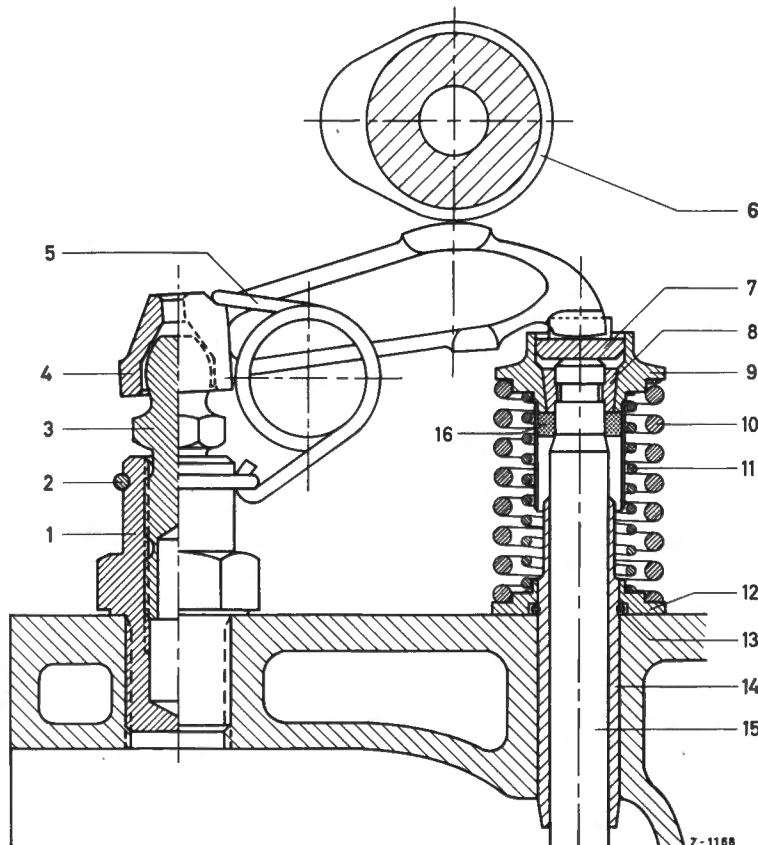

Fig. 00-3/1
On Models 190 c, 220 b, 220 Sb and 220 SEb the tappet clearance is measured between the sliding surface of the rocker arm and the cam base circle of the camshaft, on Model 300 SE between valve shaft end and adjusting screw or ball socket, on Model 190 Dc between rocker arm (6) and cap nut (7) (see Figs. 00-3/1, 4 and 6).